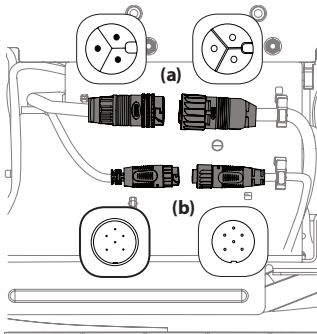
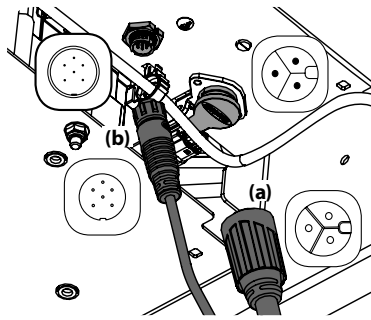

Figure 17
Figure 18
**Note:** Your mower may have one of two different deck motor connector setups. If your mower has horizontally positioned connectors, see Figure 17. If your mower has vertically positioned connectors, see Figure 18.
6. Reconnect the deck motors on the underside of the tractor. Always connect the larger connector first and then the smaller connector. See Figure 17.